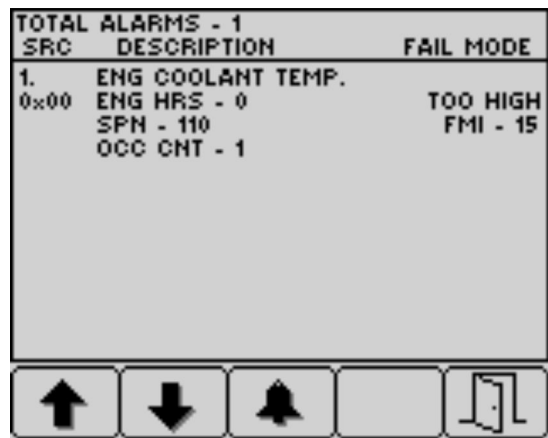

Figure 82
4. Press button 5 to exit the active fault list and return to the home screen (Figure 82).
5. Press button 5 to exit the active fault list and return to the home screen; refer to Figure 82 in Engine Advisories Messages (page 44).